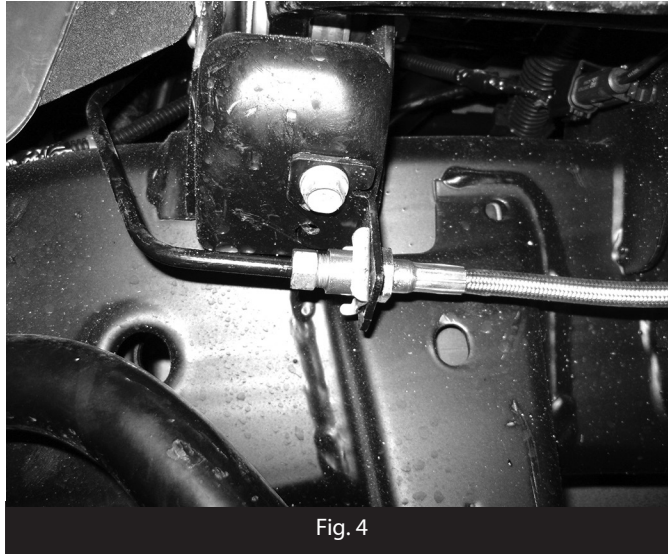

Fig. 4
8. Run the new brake line up to the factory frame mount bracket. Feed the end of the line through the bracket and fasten to the factory hardline. Using a 13mm line wrench on the hard line fitting and 11/16" wrench on the new line, tighten the fitting securely. Secure the line to the factory bracket with the original brake line clip or the provided new one (5188). (Fig 4)